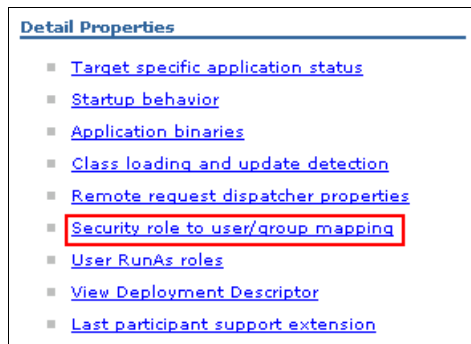

Figure A-83 Navigating to Security role to user/group mapping for WebSphere Process Server
4. Under Detail Properties, click **Security role to user/group mapping** (Figure A-83).